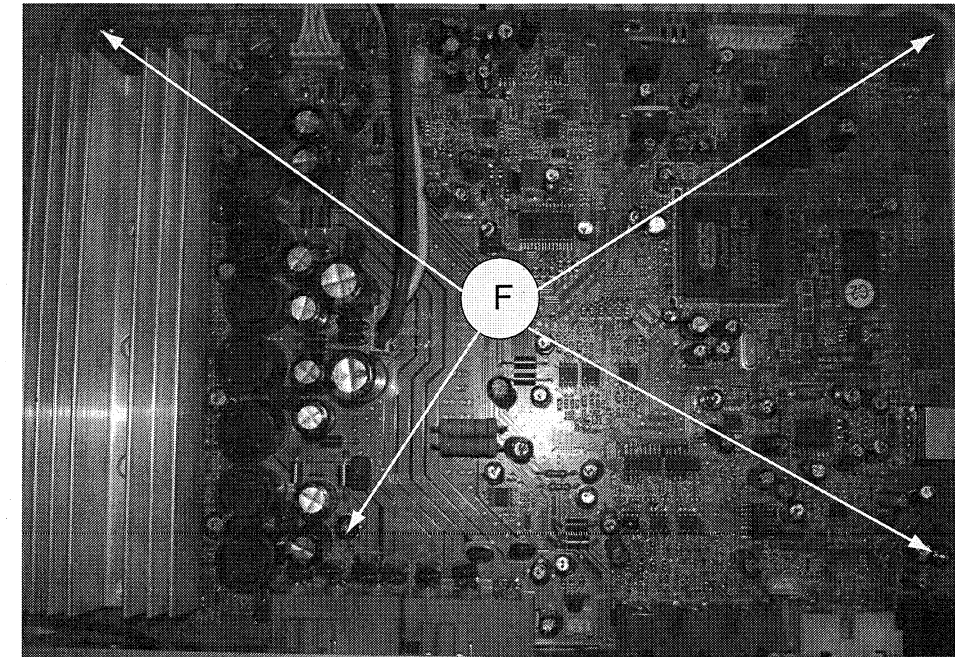

Figure 6
- 1) Loosen 4 screw "F" on the top of main board as shown in figure 6.